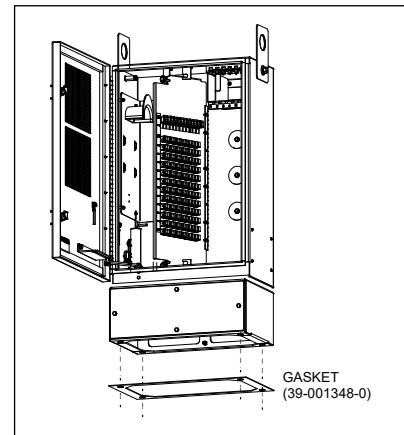

Figure 7 Gasket Installation
3. Install the gasket by positioning it on the pad so that it is underneath the bottom of the CFIT when the cabinet is installed. Line up the gasket so that the cutouts are in proper position around the conduit opening and the bolt holes as shown in Figure 7.